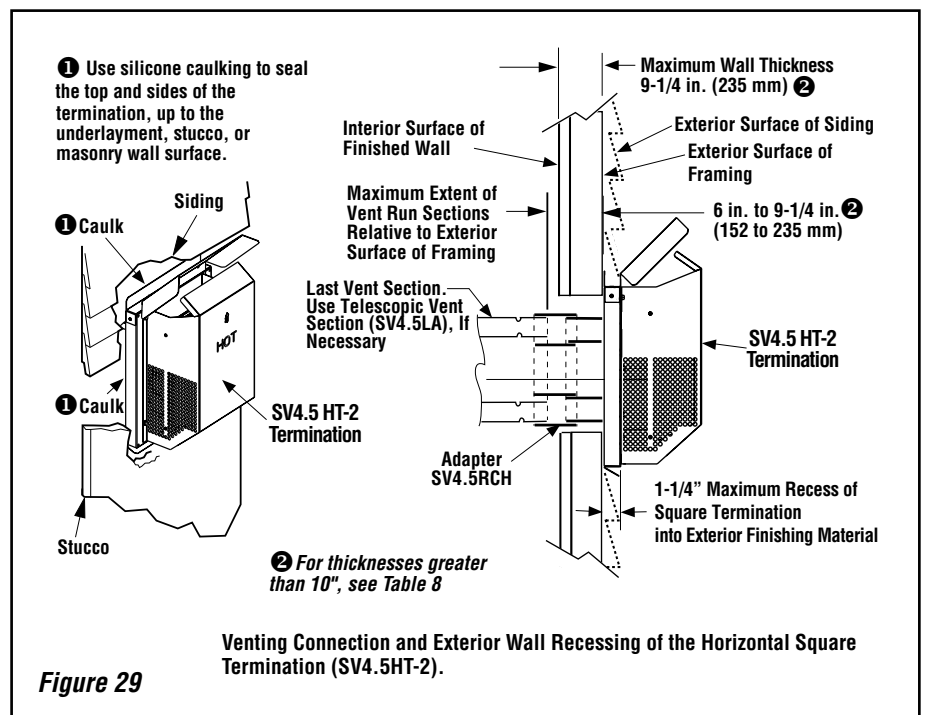

Figure 29
J. Assemble vent run to exterior wall - If not previously measured, locate the center of the vent at the exterior wall. Prepare an opening as described in **Step B**. Assemble the vent system to point where the terminus of the last section is located relative to the exterior surface to which the termination is to be attached as shown in **Figure 29 and Table 8**.
If the terminus of the last section is not within this distance, use the **telescopic vent section SV4.5LA**, as the last vent section. For wall thicknesses greater than that shown in **Figure 29**, refer to **Table 8 on Page 20**. This table lists the additional venting components needed (in addition to the termination and adaptor) for a particular range of wall thicknesses.
For the last step, from outside the exterior wall, slide the collars of the termination onto the adaptor (the outer over the outer and the inner inside the inner) until the termination seats against the exterior wall surface to which it will be attached. Orient the housing of the termination with the arrow pointed upwards. Secure the termination to the exterior wall. **The horizontal termination must not be recessed into the exterior wall or siding** by more than the 1-1/4" (32 mm) as shown in **Figure 29**.
Table 8 Note: See Figure 29 showing wall thickness range when using SV4.5HT-2 termination kit only.